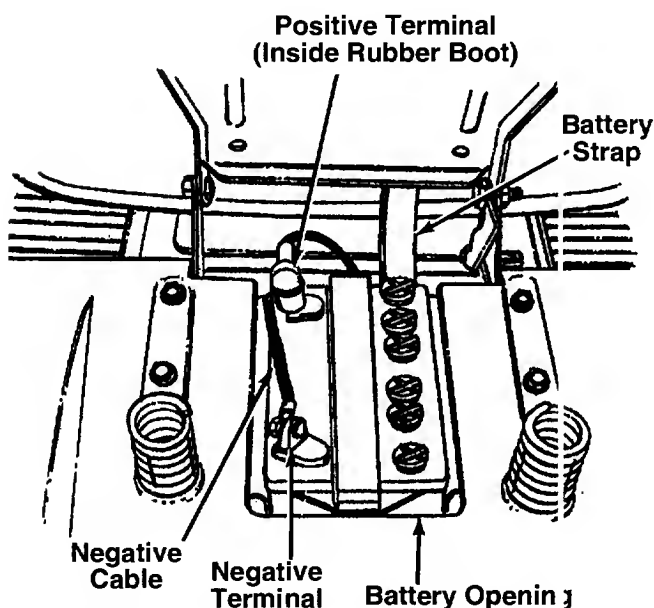

FIGURE 5.
2. Make certain both the negative (black) cable and the positive (red) cable are routed up through the battery opening as shown in figure 5.